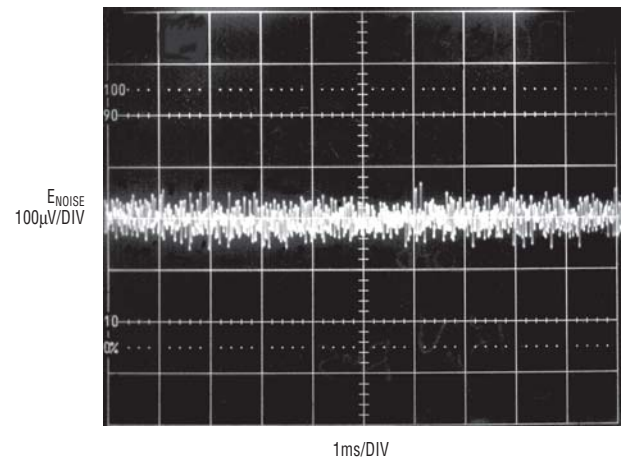

Figure 5. LT1761-5 output voltage noise
If a single supply is used, the dynamic performance of most ADCs is optimal when the common mode voltage of the input signal is at midsupply (2.5V). To generate this voltage, competitors' products require an external voltage reference or external resistors and capacitors. The LTC1420 is much easier to use: simply connect A_{IN^-} to the 2.5V V_{CM} pin. In dual-supply applications, A_{IN^-} can be connected directly to ground. AC coupling signals to the LTC1420 is also easy. All of these modes are shown in Figure 5.
Figure 5. It is simple to directly connect a single-ended signal for a dual-supply (A) or single-supply (B) system ($V_{REF} = 4.096V$). AC coupling the LTC1420 is also straightforward (C, D).